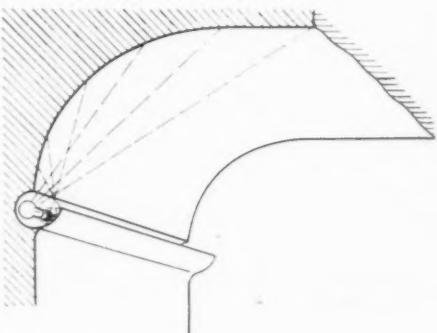
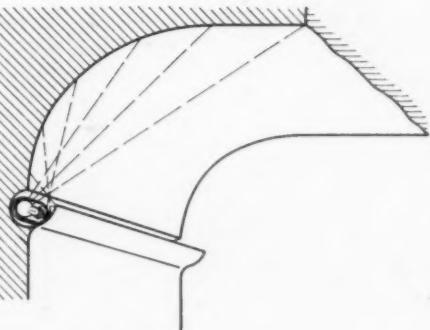

figure 2—recessed trough
figure 3—recessed projectors
*Recessed troughs:* With this type of construction (Figure 2) lamps may be spaced on 16 to 18-inch centers and still produce a uniform appearance above the cove. This wide spacing makes it possible to use a smaller number of higher efficiency lamps, thus providing more illumination at no increased expense. The reflecting surface should be a mat surface using porcelain enamel, Alzak processed aluminum, white plastic, or plaster. . . . Figure 3 indicates an effective method of installing projector-type cove lighting equipment.